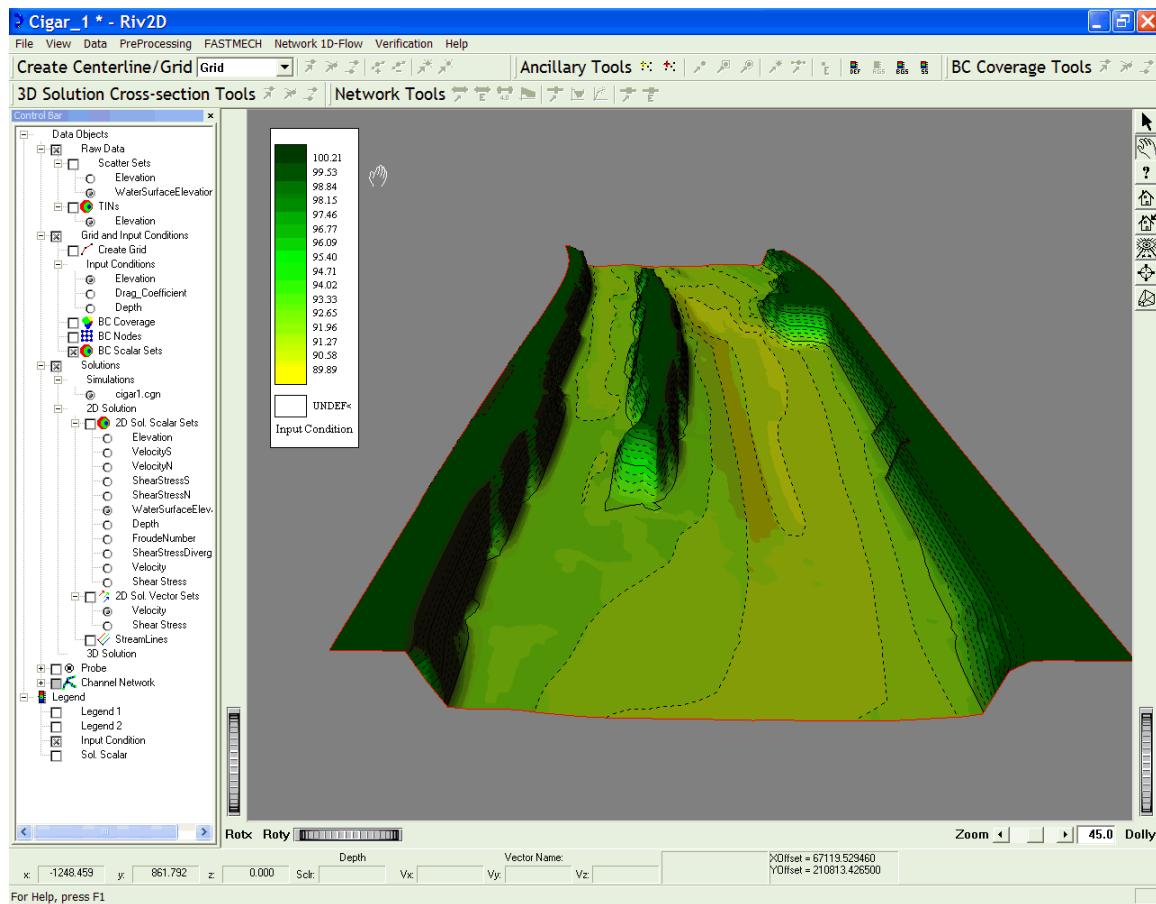

Figure 3.2.1s. Topography input condition that will be used as a background to overlay the model solution.
- Turn on the **Grid and Input Conditions** and set the input condition to **Elevation** and turn on the **GIC Scalar Sets** (fig. 3.2.1s).